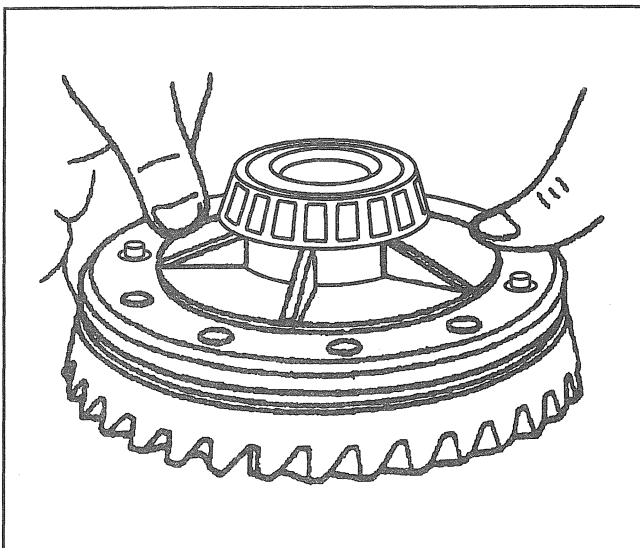

Figure 18—Aligning the Ring Gear Studs
5. Ring gear (7) to the differential case (24).
- A. Thread two left-hand threaded studs into the ring gear on opposite sides (Figure 18).